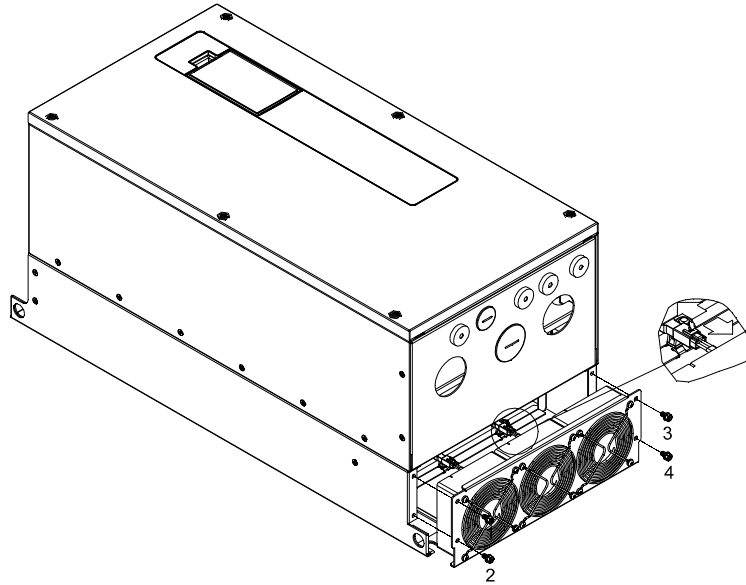

Figure 1
2. Before pulling out the fan, make sure the fan power is disconnected. (Refer to Figure 1)